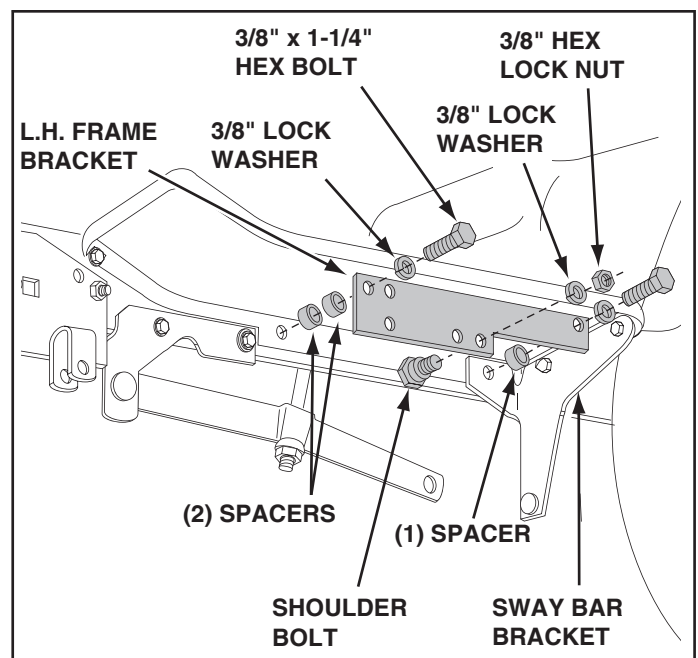

FIGURE 6 LEFT SIDE VIEW
- Assemble a frame bracket to the L.H. foot rest and sway bar bracket as shown in figure 6. Use two 3/8" x 1-1/4" hex bolts, three spacers and two 3/8" lock washers.
- Assemble a shoulder bolt to the inside of the L.H. frame bracket, securing it with a 3/8" lock washer and a 3/8" hex lock nut. See figure 6.